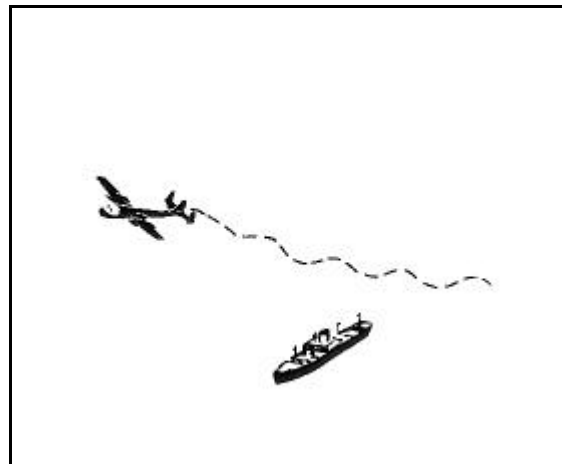

Figure 10-40. Aircraft Dismissal Signal
- Then the airplane will head in the direction that the ship is to follow in order to find the ship or aircraft in distress (Figure 10-40).